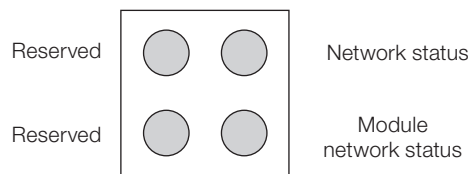

Figure 13.9: LEDs indicating the status of the DeviceNet network
The board also has other four LEDs grouped at the right bottom corner, indicating the Fieldbus network status according to Figure 13.9 on page 13-6 and Table 13.5 on page 13-7 below.
- The company HMS Industrial Networks AB has developed the communication board that comes with the product. Therefore, the network configuration software will not recognize the product as the MVW-01 frequency inverter, but as the "Anybus-S DeviceNet" at the "Communications Adapter" category. The differentiation will be done using the device network address, adjusted according to the Figure 13.9 on page 13-6 and the Table 13.5 on page 13-7.